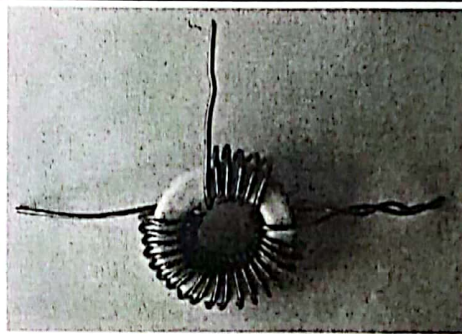
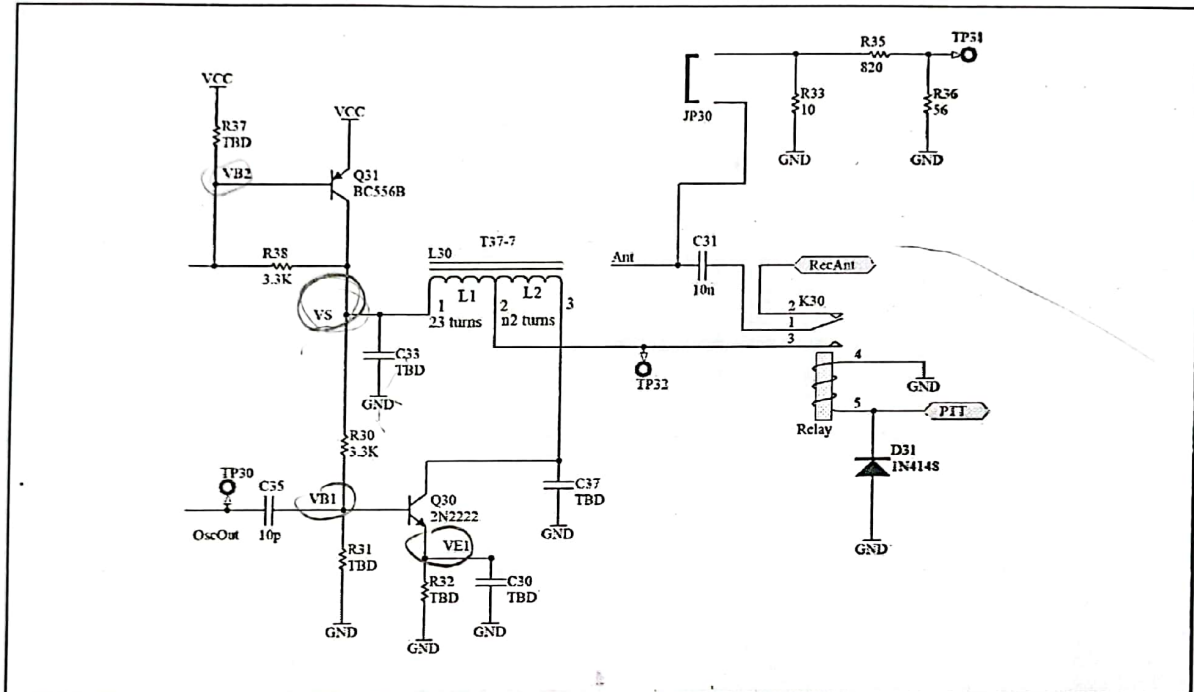

Figure 4: A photo of properly wound tapped inductor example.
Figure 5: Schematic of transmitter amplifier.
1. The tuned RF amplifier to be mounted is the transmitter (TX) amplifier operating at 27 MHz. This circuit is given in Fig. 5. L30 is a tapped inductance. The number of turns of L2 is determined in the preliminary work. It is supposed to transform the impedance of 10Ω to the optimum load resistance of the transistor. Cut 40 cm of 0.35 mm *enameled* wire to wind L1 and L2 on the T37-7 toroid. T37-7 is a core with an outer diameter of 0.37 inches or 9.4 mm (see p. 402). The windings should be single-layer without scrambles. Randomly wound coils do not perform well. The increased capacitance between the windings has a detrimental effect on the inductance performance. Count the turns of L1 carefully. It is very easy to end up with one turn more. The number of turns is the number of times the wire *passes through the toroid*. When the windings of L1 are finished, bend and twist the wire for the tap of 1 cm long. Continue winding in the same direction to complete L2. Windings should be similar to the example tapped inductor shown in the photo of Fig. 4. Cut the extra wires at both ends. Scrape the enamel off with a knife at